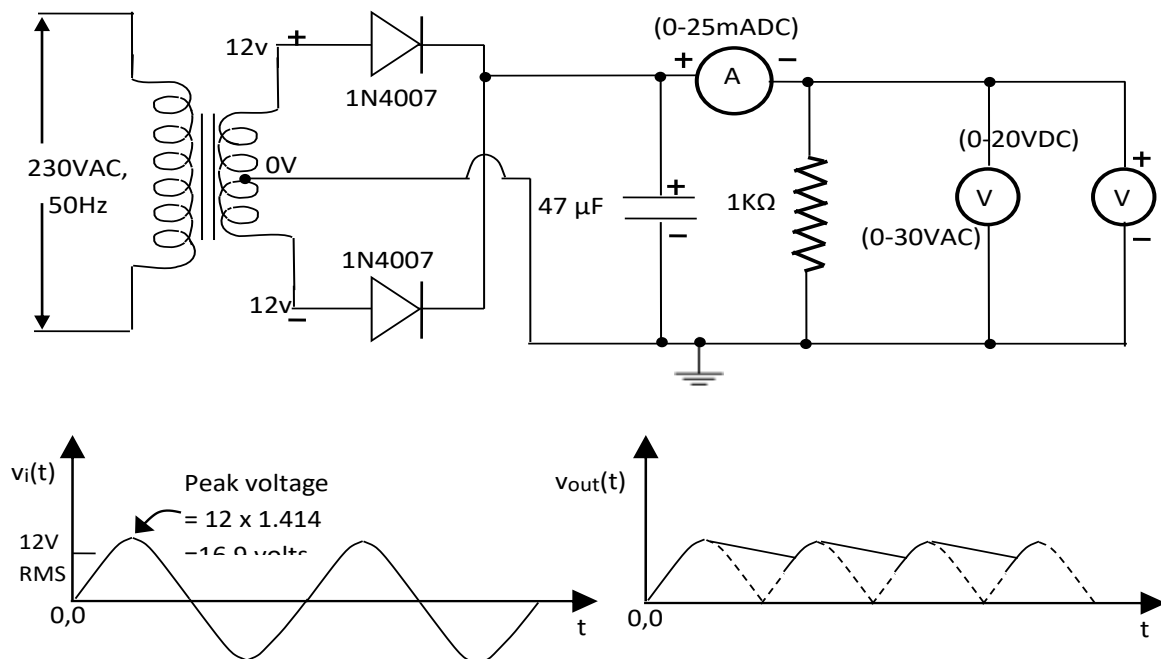

Fig.2 Full-Wave Rectifier with Capacitor filter
1. Connect the capacitor according to the diagram in Fig. 2.